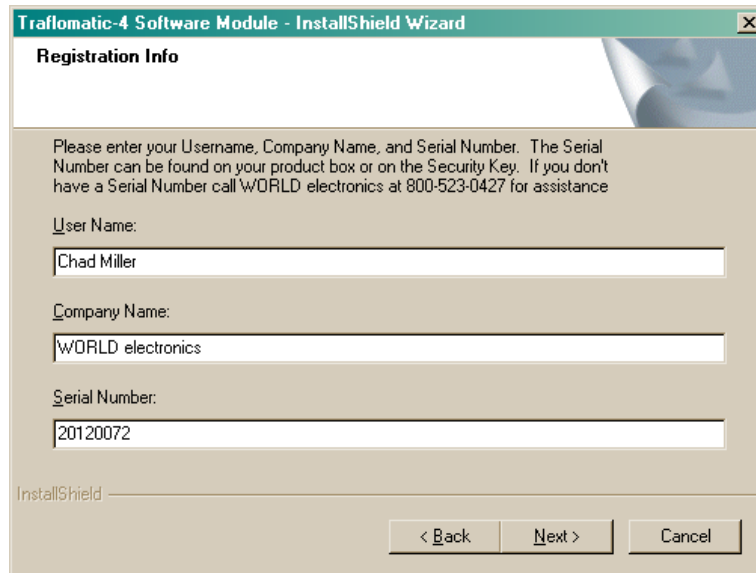

Figure 16
4. After entering all the information into the 3 separate fields, the **Next** pushbutton will appear allowing the installation to continue (Refer to Figure 16). Select **Next** to continue with the installation.